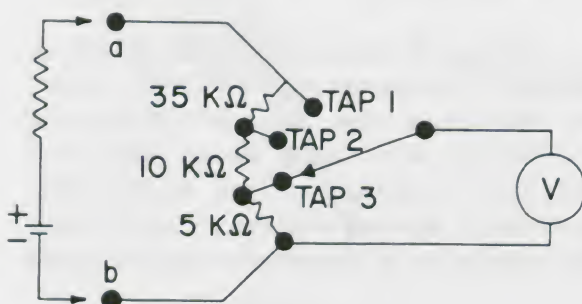

Figure 23.
**Example 3.** An unknown voltage is applied across the ends (*a* and *b*) of the divider as in Figure 23. With the range switch in the position shown, the meter reads 3 V. This voltage is measured across one-tenth of the total resistance (50 k $\Omega$ ). So the voltage across *ab* is ten times as large, or 30 V.